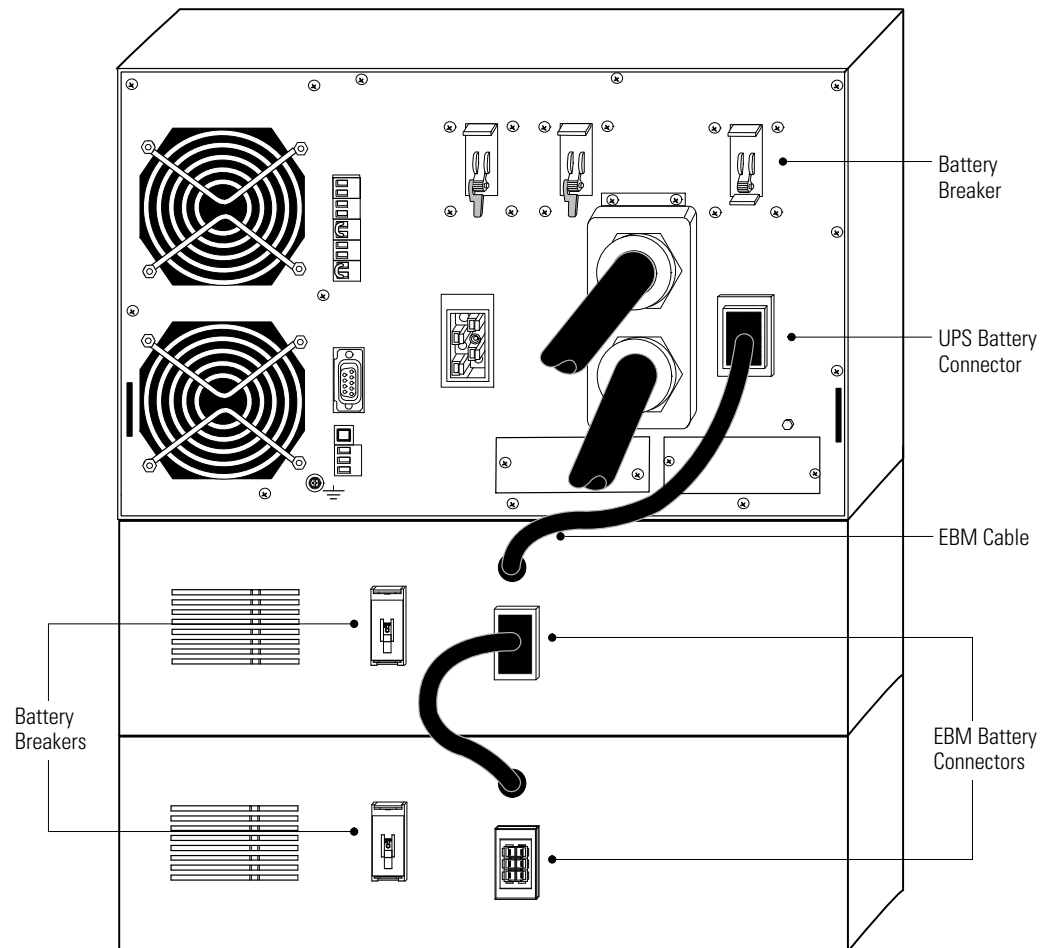

Figure 55. Typical EBM Installation
1. Verify that all battery circuit breakers are in the OFF (O) position (see Figure 55).
2. Plug the EBM cable(s) into the battery connector(s) as shown in Figure 55. Up to four EBMs may be connected to the UPS.